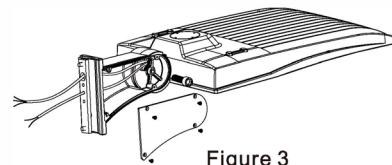

Figure 3
Step 1. Remove the bracket mounting screws on the fixture, open the side lid of the bracket and run the wires through the bracket (Figure 3)